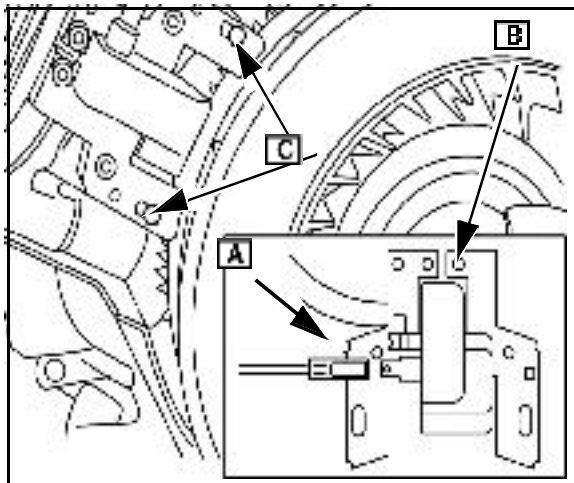

Fig. 40
1. Disconnect stop switch wire (A) at armature (B).
2. Remove armature screws ([C] Fig. 40).